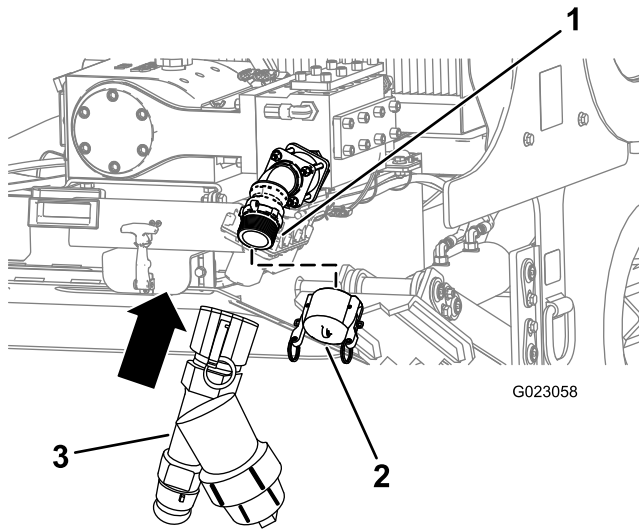

Figure 48
1. Remove the pump-inlet cap (Figure 48).
2. Align the Y-screen with the threads on the pump (Figure 48).